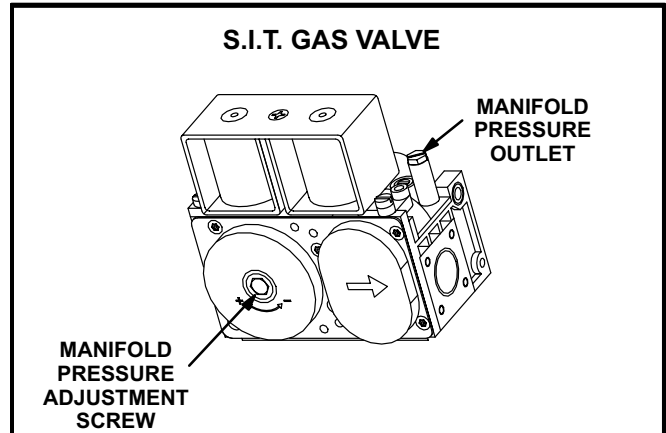

FIGURE 23
#### GAS VALVE OPERATION (Figure 23)
- 2 - After line pressure has been checked and adjusted, check manifold pressure. Manifold pressures are given in technical data table on page 22. See figure 23 for gas pressure adjustment screw location.